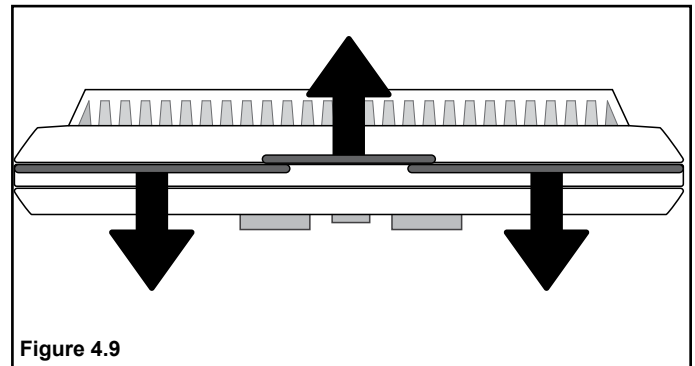

Figure 4.9
- Separate the body of the thermostat from the mounting plate by gently pulling the two pieces apart. See Figure 4.9.